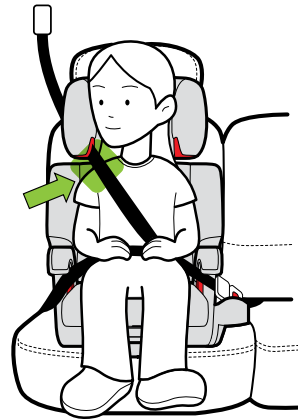

Figure 47
- The shoulder belt **MUST** be at or above the child's shoulder, lie snugly across the mid point of the child's chest and across the center of the shoulder in the **GREEN** zone, as shown in **Figure 47**.